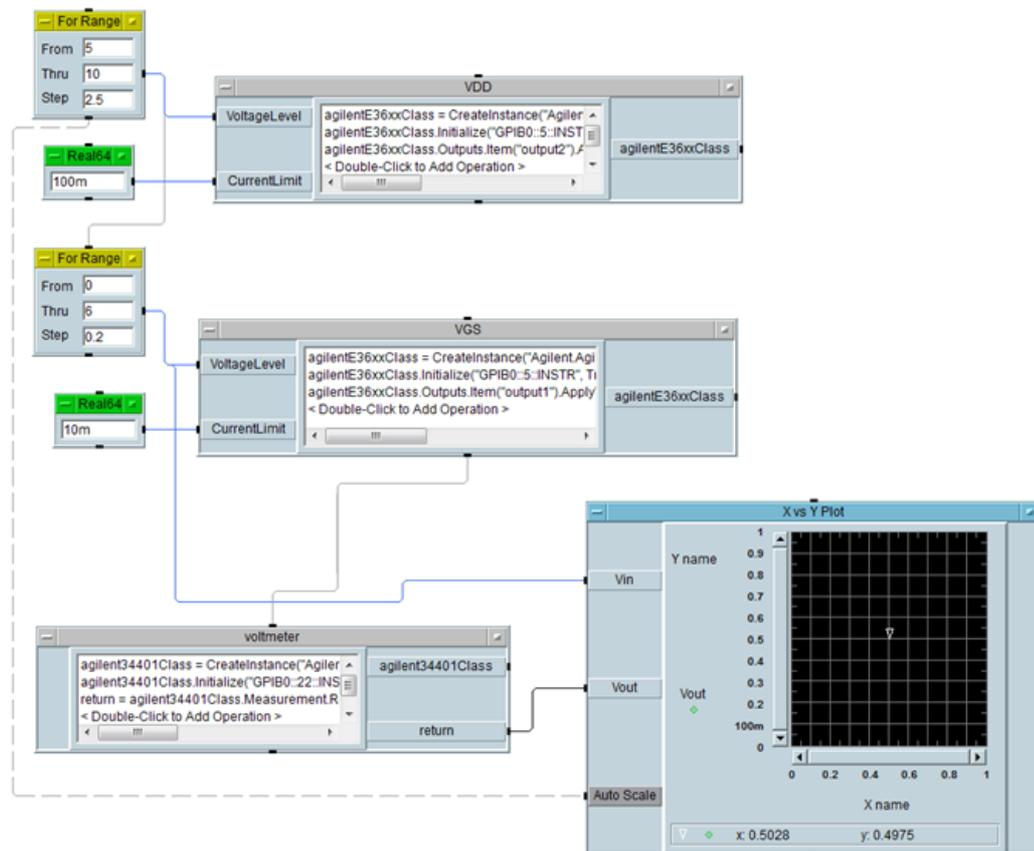

Fig. 23: Final VEE configuration
43) Click on **Vout** on the **X vs Y Plot** object. Select color, line type and point type as **Green, Point** and **Diamond**, respectively. At the end, the VEE configuration should look like as in Fig. 23.